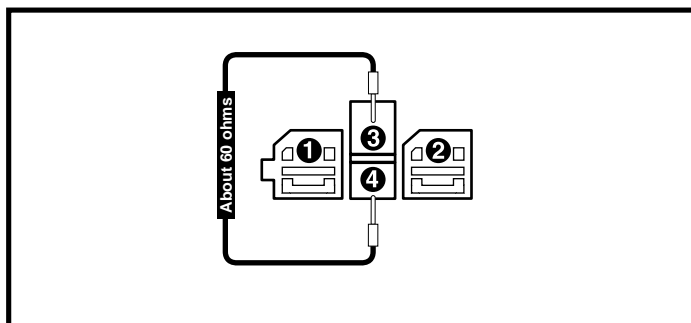
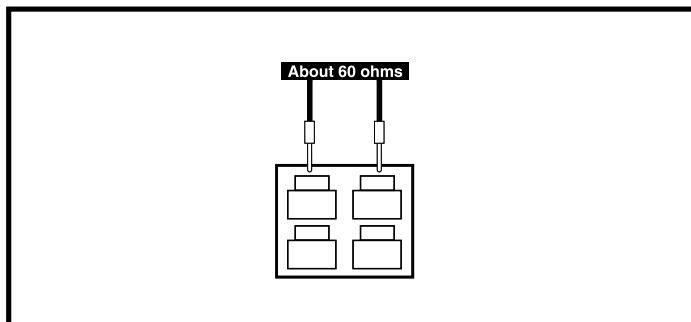

Figure 30. Connector 4b
Figure 31. Connector 13a
4. Unplug connector 4b from the power module (6). See diagram 3.
5. Measure resistance across pin 3 and pin 4 of connector 4b. See figure 30.
- *If your multimeter indicates about 60 ohms*, then replace the power module (6) and retest the system.
7. Measure resistance across pin 3 and pin 4 on connector 13a. See figure 31.
- *If your multimeter indicates about 60 ohms*, then replace the right motor interface harness (4) and retest the system.